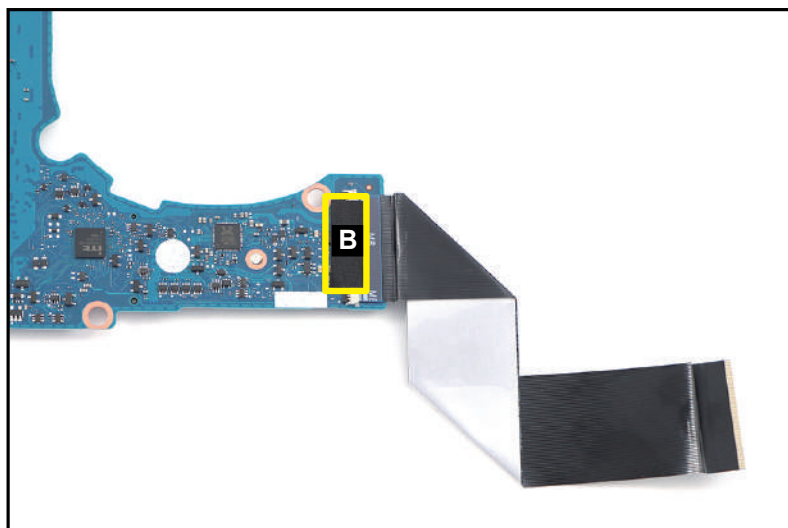

Figure 3-107. Replacing the Mainboard
2. Attach the tape (B) to secure the FFC connection (Figure 3-107).